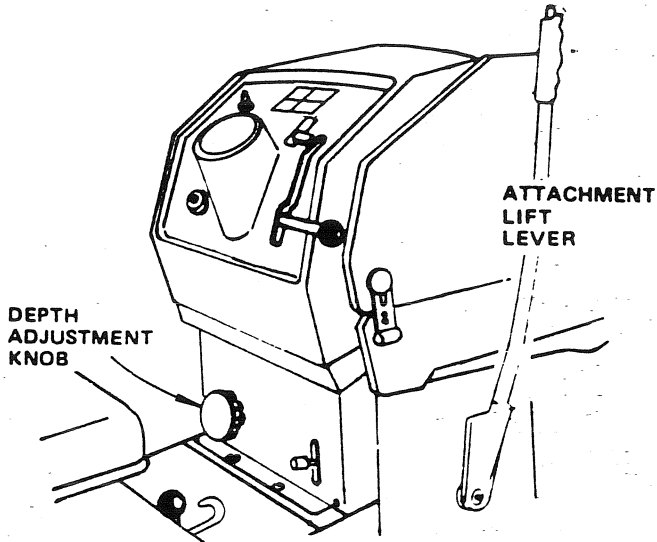

FIGURE 11
4. Place Attachment Clutch Switch in "DISENGAGED" position (Fig. 9) and lower attachment with Attachment Lift Lever (Fig. 11).